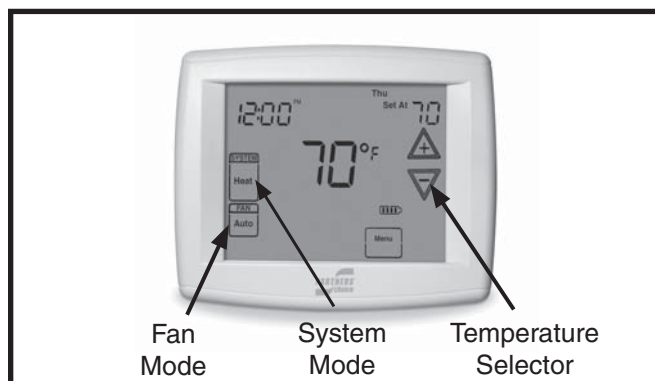

Figure 1. Digital Thermostat
1. Set the thermostat system mode to COOL and the thermostat fan mode to AUTO. See Figure 1.
1. Set the thermostat system mode to Heat and the thermostat fan mode to AUTO. See Figure 1.
Set the thermostat system mode to OFF and the thermostat fan mode to AUTO. See Figure 1. **NOTE:** The system will not operate, regardless of the thermostat temperature selector's setting.
Set the thermostat fan mode to ON (or CONT on some thermostat models). See Figure 1.